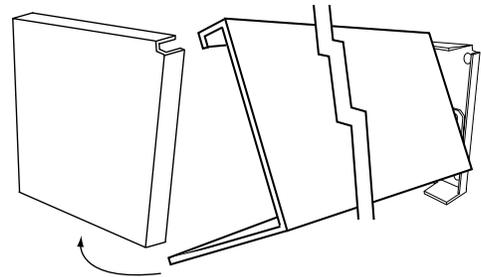

Figure 6
- ⑤ Place fascia top lip over top edge of endcaps, then rotate down and snap into place (see Fig. 6). **NOTE:** Make sure shade fabric does not retract completely behind fascia.
- ⑥ Run shade to desired "up" position and place a stop ball on the chain in the desired location. Repeat procedure to set the down stop.